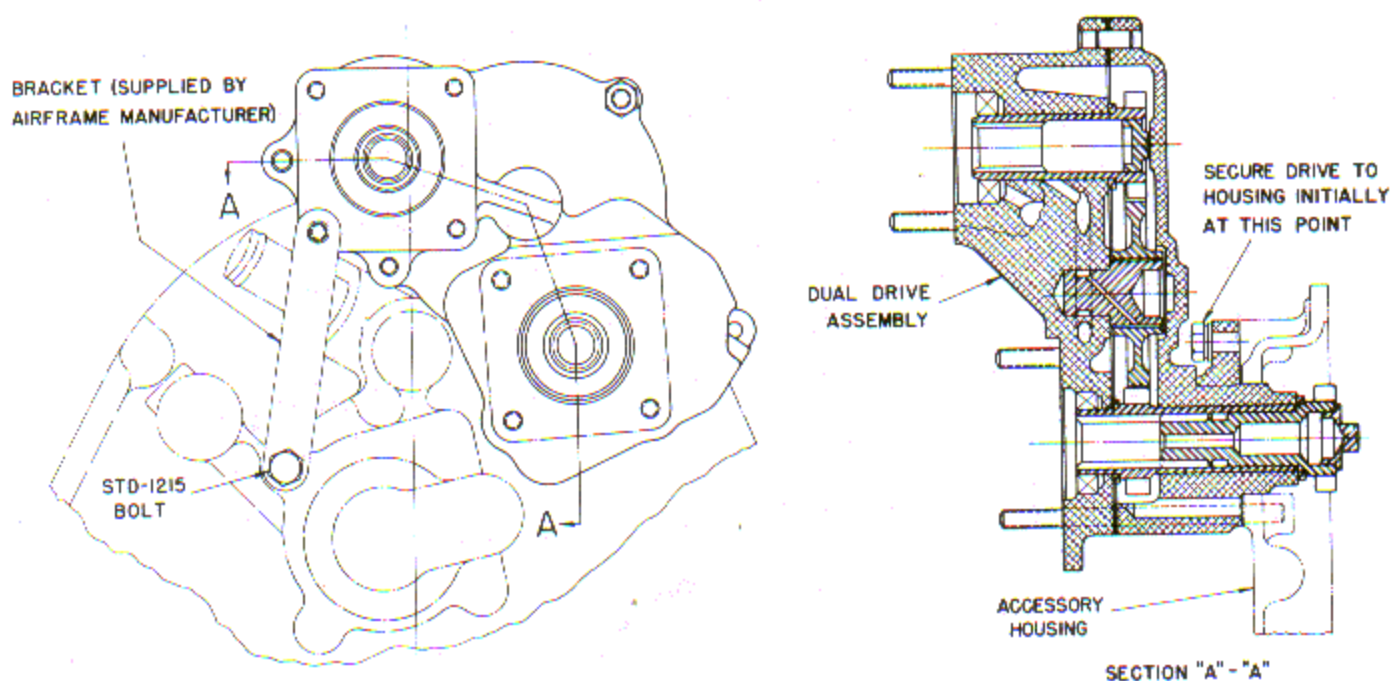
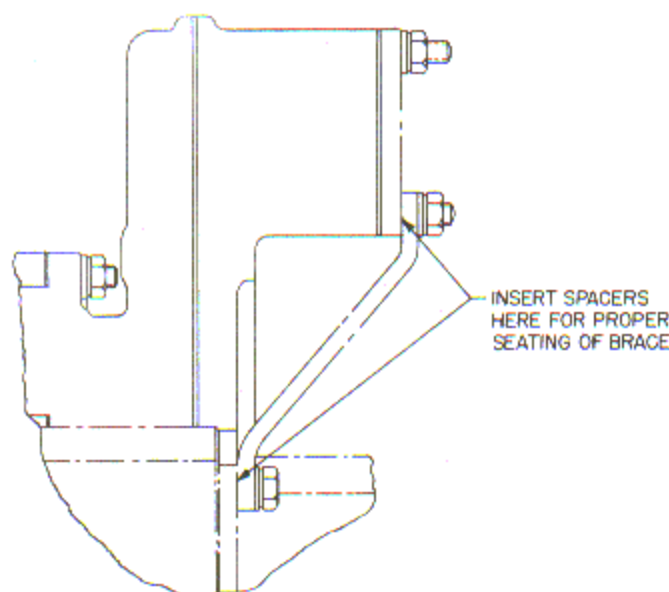

Figure 5-7. Dual Drive Assembly, Vacuum Pump and Hydraulic Pump
Figure 5-8. Proper Seating of Support Brace
housing mounting flange. Use spacer washers under ends of brace if required for proper seating. (See figure 5-8.) Check the bracket for fit after the vacuum pump is installed.
c. Install the drive assembly on the vacuum pump mounting pad on the accessory housing as shown in figure 5-7, securing the assembly in place with a 1/4-20 nut, plain washer, and lockwasher on the short stud installed in the accessory housing in step b. above.
nuts and washers in the kit plus the four sets removed from the accessory housing in step a. above. Secure one end of the dual drive support brace (Lyc. P/N 71023) to the lower left-hand stud on the vacuum pump pad and attach the other end to the upper left-hand corner of the pressure screen housing mounting flange as shown in figure 5-7, using the STD-1215 bolt provided. Make sure that the hole in the support brace aligns with the hole in the pressure screen housing mounting flange. Use spacer washers under ends of brace if required for proper seating of both ends. See figure 5-8. Check the bracket for fit after vacuum pump is installed.